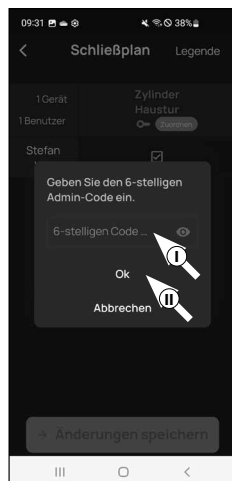

Fig. 5
- ⑥ Here you will be asked to verify yourself with your administrator code. Enter the code and confirm with "OK" (Fig. 5).